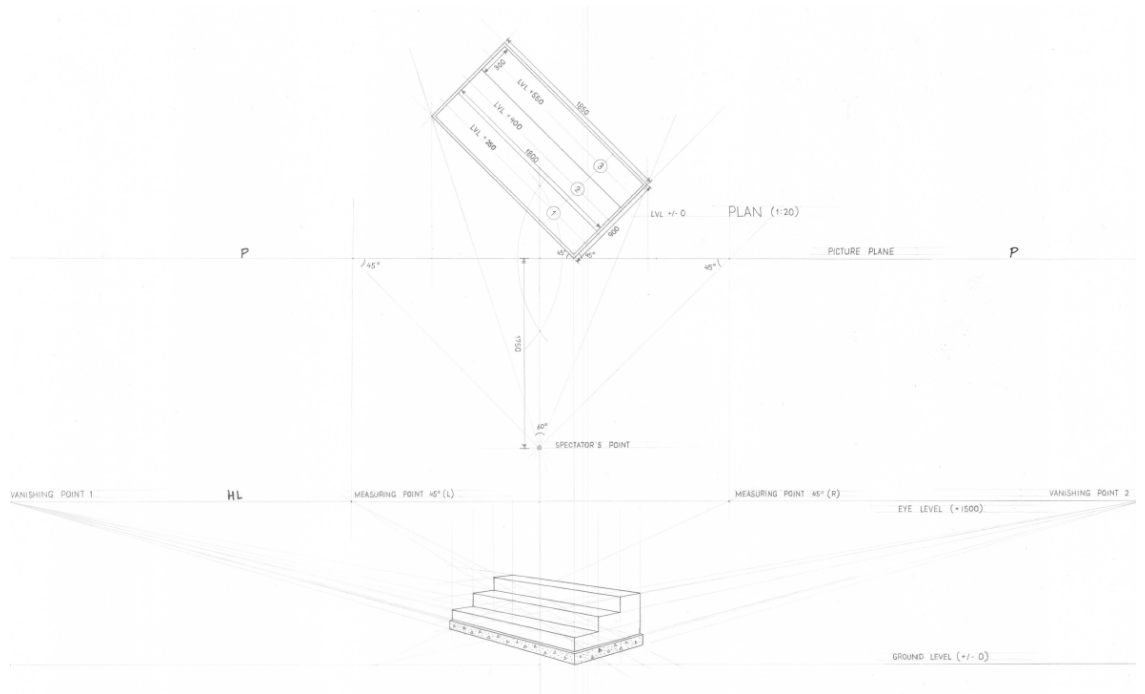

Fig 5.12 Steps in Two Point Perspective
4. Draw one horizontal line (HL) above ground level at a height equal to observer's eye level i.e. 1.5m.
6. from S join all the points of object up to PP and then project them vertically downward up to ground level (GL).
7. point A touches the PP hence true height and perspective height of this point will be same. Transfer true height of the object of this line and converge them to vanishing points V1 and V2. These converging lines cut vertical projections of B and D at B1 B2 and D1D2 (upper and lower points of object). Hence sides A1 D1 A2 D2 and A1 B1 and A2 B2 are drawn **Fig 5.12**.